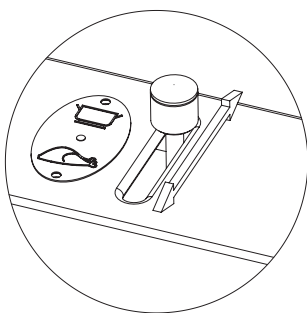

Figure 6a.
The stove operating mode selector handle has two positions (Figs. 6a, 6b):
1. during firing and for cooking, set the handle to the position shown in Fig. 6a.
Fast cooking - This mode is achieved when the hotplate is intensely heated, which is done by adding small amounts of fuel; set the stove mode handle to the position shown in Fig. 6a and adjust the draft to a medium level.